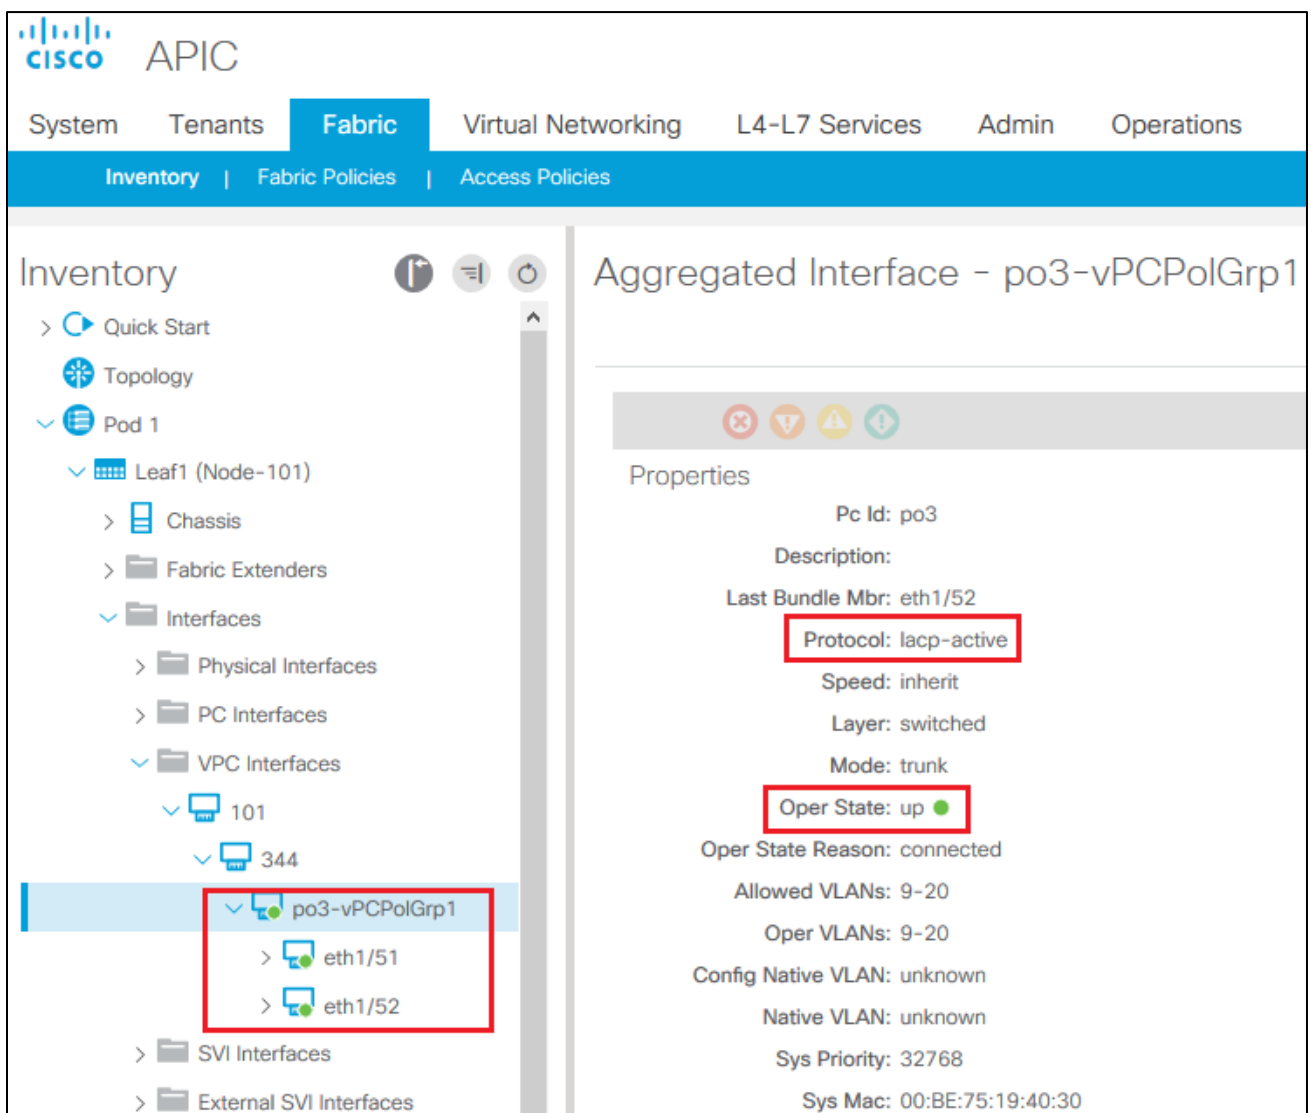

Figure 78 Cisco ACI vPC port channel and interfaces
1. In the APIC GUI, go to **Fabric > Inventory > Pod name > Leaf name > Interfaces > vPC Interfaces** and drill down to the applicable port channel vPC policy group as shown in Figure 78.